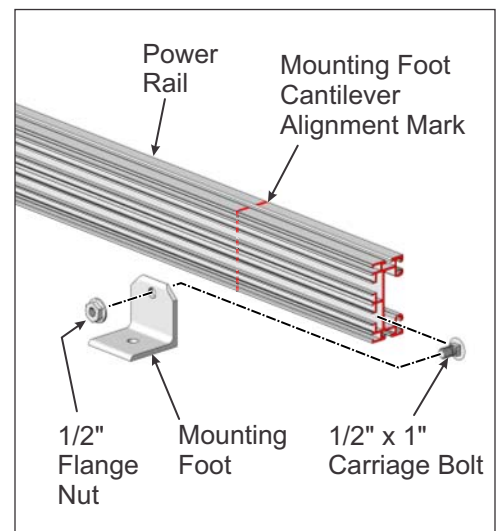

Figure 2-2: Attaching Power Rail to Mounting Foot
- B. Starting at the outermost Mounting Foot mounting position, insert one 1/2" x 1" carriage bolt into the channel of the Power Rail. (See Figure 2-2)